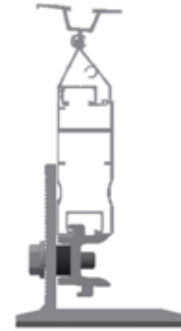

Fig 4.4.1: Optimiser Kit Installation
- I. Add an additional Module Support Pro to either the top or bottom row of the PV array, as shown in [Fig 4.4.1].
- III. The microinverter/optimiser can be positioned by top entry or sliding in top of the rail [V-channel] using the hammerhead nuts on top of the Module Support Pro, as shown by the left image in [Fig 4.4.1].